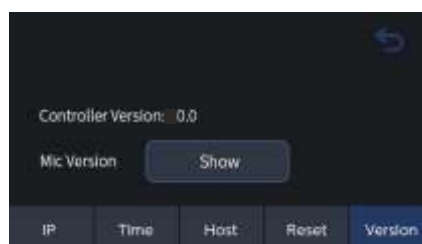

Figure 4.36 Version Screen Controller
E. Version: It allows you to check the firmware version of both the controller and microphone unit. Controller version is displayed on the controller screen. If you want to check microphone version click show, the version info will flash on the display of the microphone units (See Figure 4.36 & 4.37). Press Hide to hide the version information from microphone unit.